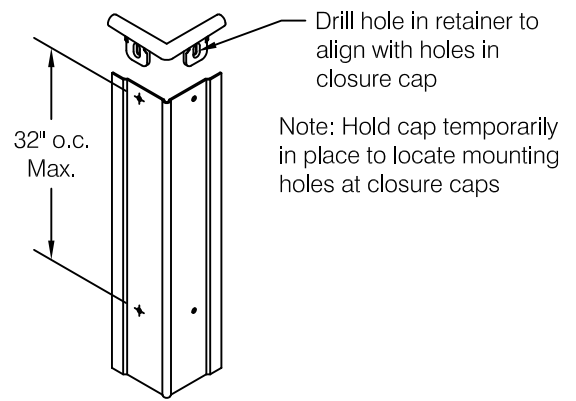

fig 2
**Step 2:** If installing on masonry pre-drill clearance holes in vinyl retainer for hardware listed below using a #15 (.180") bit for #8 fastener. Locate mounting holes at closure caps and along the vinyl retainer not to exceed 32" on center, see **fig 2**. If installing on gypsum wall with stud backing proceed to **step 3**.
*Drywall Installation:* Locate mounting holes at closure caps and along the vinyl retainer not to exceed 32" on center, see **fig 2**. If it is necessary to install fasteners in locations where there is no metal backing or stud use pre-drilled vinyl retainer as a template to mark and drill wall for plastic Alligator® insert in accordance with instructions provided with hardware.